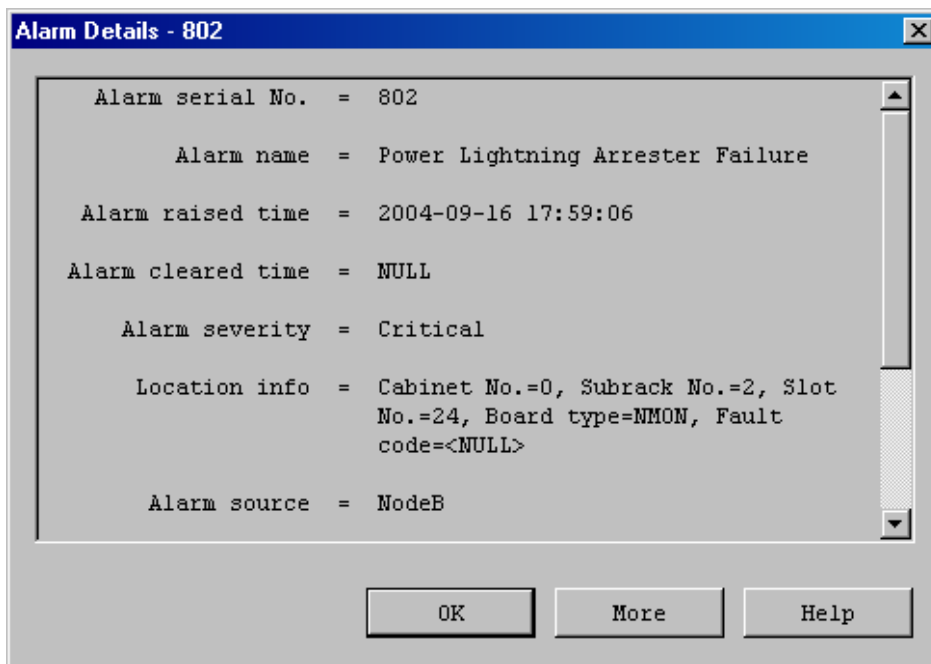

Figure 5-10 Alarm Details dialog box
- 2) The **Alarm Details** dialog box opens up as shown in Figure 5-10.
- 4) Double click an alarm record in an alarm browse window. The **Alarm Details** dialog box opens up as shown in Figure 5-10.